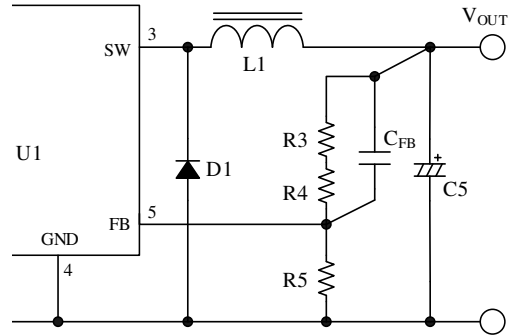

Figure 12-8. Using Electrolytic Capacitor
*When ESR is about 150 mΩ, C_{FB} connects to between FB pin and V_{OUT} as shown in Figure 12-8. The value of C_{FB} is about 220pF to 2200pF.